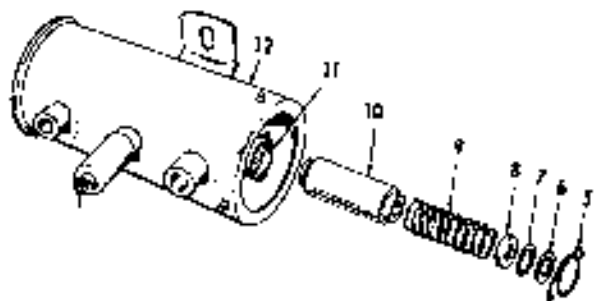

FIGURE 7-7. REMOVAL OF RETAINER, "O" RING, CUP VALVE, SPRING AND PLUNGER
3. Remove retainer spring (5) from plunger tube (11), using thin nose pliers to spread and remove ends of retainer from tube. Then remove washer (6), "O" Ring seal (7), cup valve (8), plunger spring (9) and plunger (10) from tube (11), Figure 7-7.
1. Insert plunger assembly (10) in tube with buffer spring end first. Check fit by slowly raising and lowering plunger in tube. It should move fully without any tendency to stick. If a click cannot be heard, the interrupter assembly is not functioning properly in which case pump should be replaced.
2. To complete assembly, install plunger spring (9), cup valve (8), "O" Ring seal (7) and washer (6) as shown in Figure 7-7. Compress spring (9) and assemble retainer (5) with ends of retainer in side holes of tube (11).